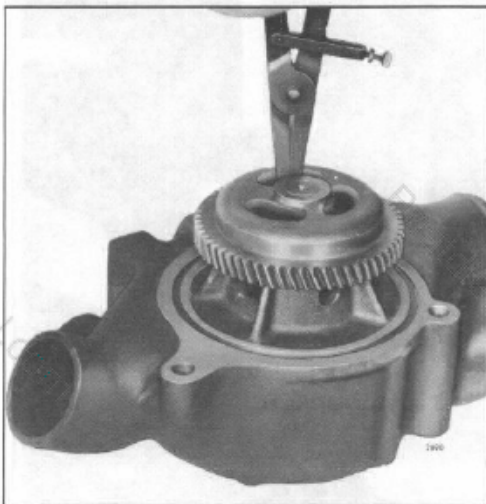

Fig. 10 - Removing Retaining Ring using Tool J 4646
1. Turn the pump gear so the slot is over the ends of the bearing retaining ring, insert pliers J 4646 into the slot and, with the aid of a small screwdriver, remove the ring from the groove (Fig. 10).
2. Turn the pump gear so the slot is over the ends of the bearing retaining ring, insert pliers J 4646 into the slot and, with the aid of a small screwdriver, remove the ring from the groove (Fig. 10).